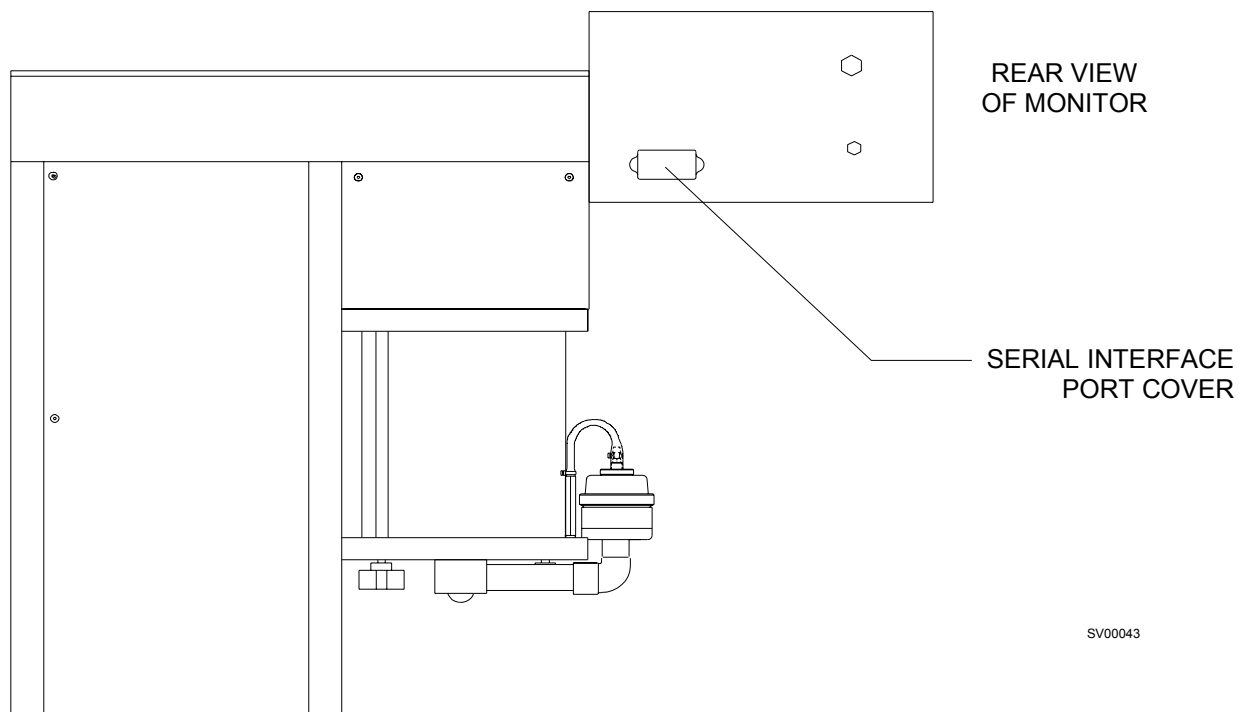

FIGURE 7-1. Narkomed MRI Serial Port Location
7.2.2 Remove the serial interface port cover from the back panel of the monitor. See Figure 7-1.